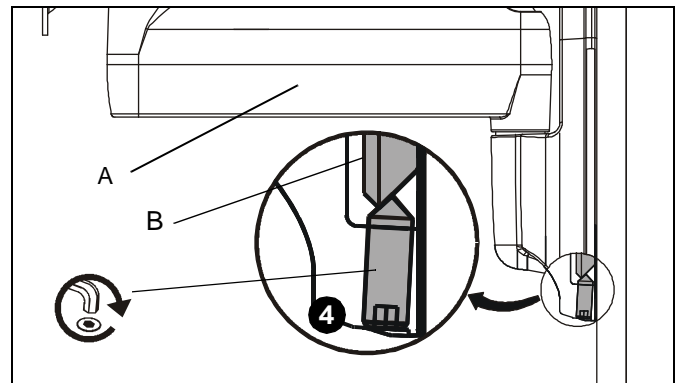

Figure 3
4. Tighten set screw using 5/32" hex key (D). (See Figure 3)
CAUTION: IMPROPER INSTALLATION CAN LEAD TO DISPLAY FALLING CAUSING SERIOUS PERSONAL INJURY OR DAMAGE TO EQUIPMENT! Make sure set screw engages back side of mounting dish on wall bracket (B). (See Figure 3)